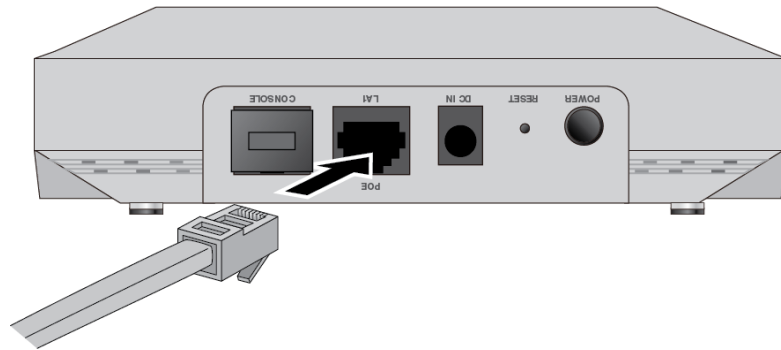

Figure 16. Connecting the Ethernet Cable to the LAN Port
1. Connect the Ethernet cable into the RJ-45 LAN port. Refer to Figure 16.